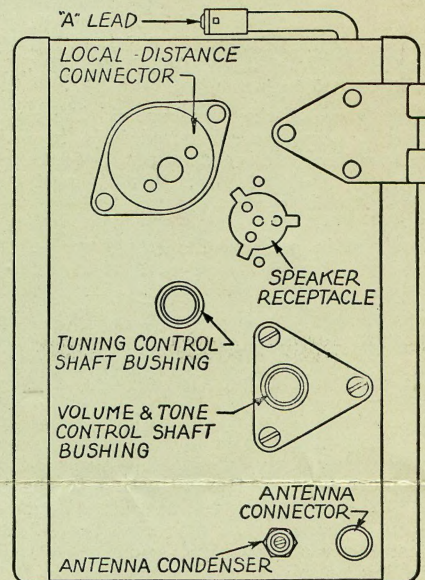
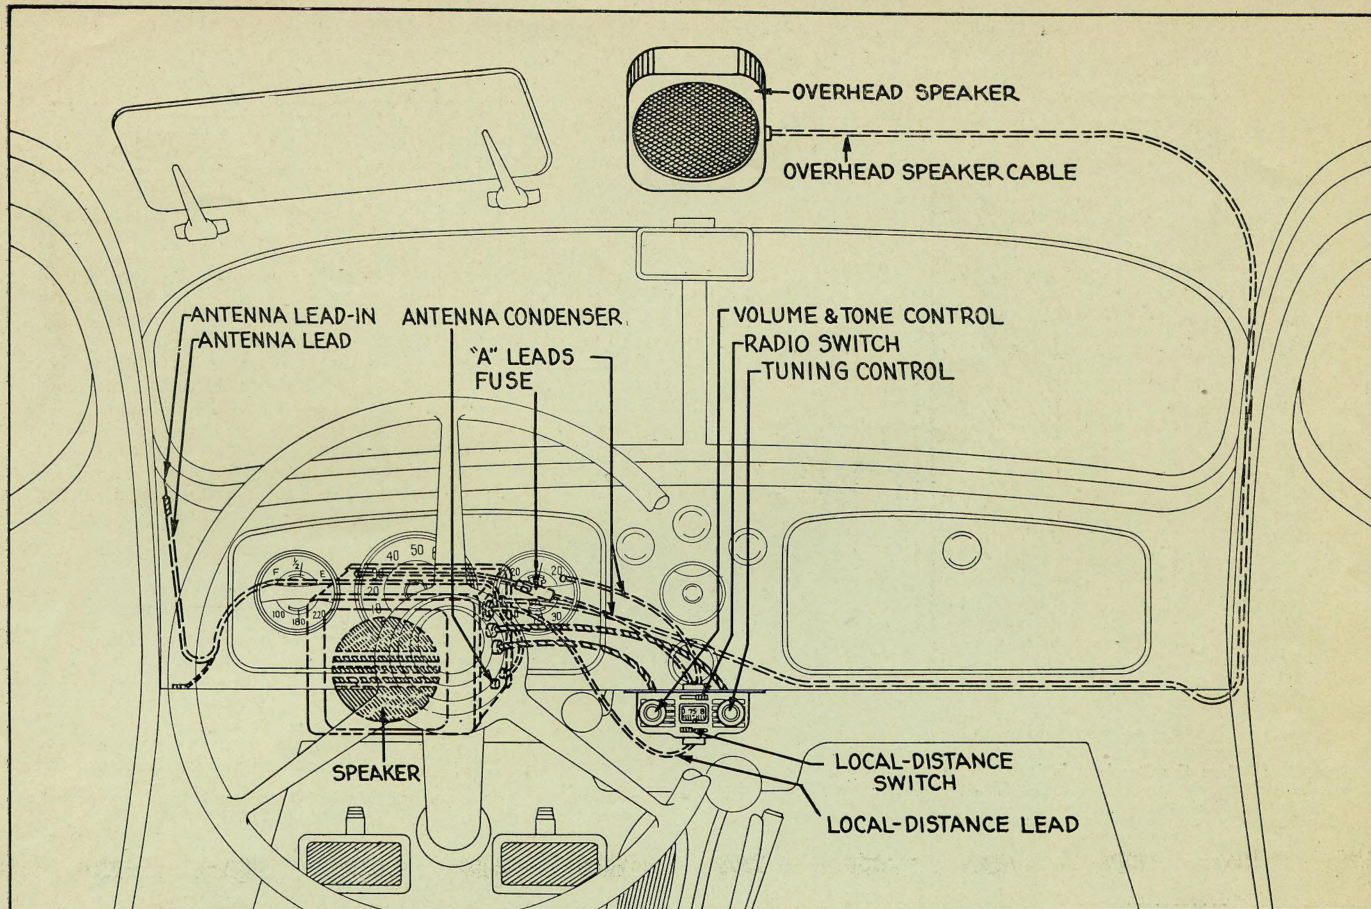

FIGURE 2
FIGURE 3
**RECEIVER INSTALLATION**—The Receiver must be installed under the cowl on the dash. Be sure that in the location selected, there is ample foot room and that the Receiver does not in any way interfere with operation of the control pedals and ventilators. The Receiver can be installed on the right side of the dash, in the center or on the left side, above the steering column. Figure 3 shows a typical installation with the Receiver on the left side.
**CONTROL UNIT**—The control unit fastens to the bottom edge of the instrument board. (Figure 3 shows a typical installation). Drill two holes in the instrument board flange in the desired location and fasten the control mounting bracket securely by means of bolts and nuts. Seat the volume control shaft end in the proper bushing on the Receiver housing and fasten the shaft casing nut securely. (See Figures 2 and 3). Before coupling the tuning control shaft to the Receiver, turn the tuning control knob counter-clockwise to the mark below 55 on the scale. To couple the shaft, turn the knob counter-clockwise slowly until the shaft end is seated in the bushing and tighten the knurled casing nut securely with the fingers.
plug" in the antenna lead connector and then plug the antenna lead into the antenna lead connector. (See Figure 2).
**LOCAL - DISTANCE SWITCH CONNECTION**—The local-distance switch is on the bottom of the control head. Connect the black lead coming from the switch to the Receiver. The location of the local-distance connector is shown in Fig. 2.
**ANTENNA COUPLING ADJUSTMENT**—Turn on the radio and tune in a *weak broadcast signal at approximately 75* on the control scale. The volume control should be turned well up. With a small screw driver, adjust the antenna coupling condenser for the maximum signal. For location of the coupling condenser, see Figure 2.